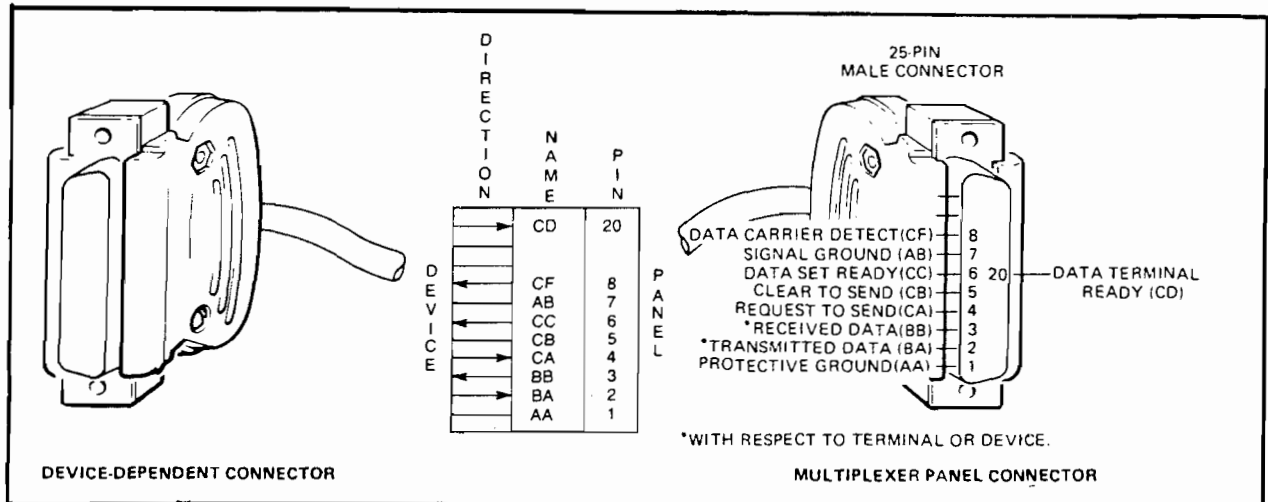

Figure 4-2. RS-232-C Panel to Device Wiring
If you need to make your own cables for connection to the RS-232-C panel, the wiring information in figure 4-2 will be useful. Figure 4-2 illustrates the RS-232-C Panel device connector pin assignments that are representative of each port, J0 through J7. Note that in keeping with EIA RS-232-C standards when referring to the terminal or I/O device, Received Data (BB) and Transmitted Data (BA) should be referenced with respect to the terminal or device. In other words the Transmitted Data (BA) at the device end is actually the Receive Data (RD-) at the MUX interface. By the same convention, Received Data (BB) at the device is actually Send Data (SD-) at the MUX interface. A standard 25-pin male connector (shown in figure 4-2) must be attached to the RS-232-C Panel end of the cable and your device compatible connector at the other. It is recommended that such a cable not exceed 15 meters (50 ft) in length by the RS-232-C standard. Figure 4-2 gives the pin-to-signal relationships for the 25-pin connector at the RS-232-C Panel end of the fabricated cable.